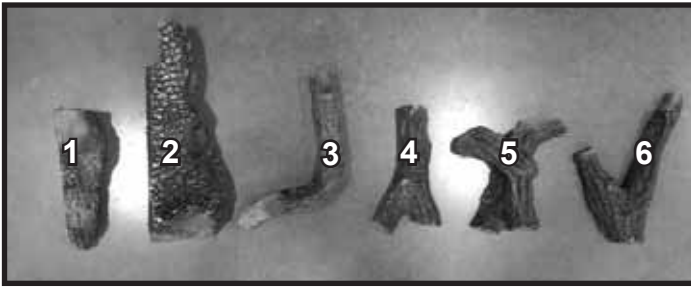

Figure 2. LOGS-COSMO42
**NOTICE:** To simplify the installation process, use Figure 2 to positively identify each individual log before beginning installation.